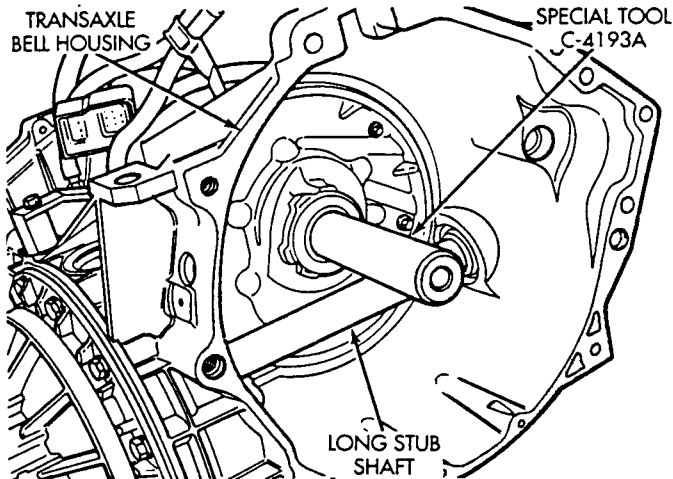

Fig. 6 Oil Seal Installation
(1) Clean and inspect oil pump seal seat. Then install seal using special tool C-4193A (Fig. 6).